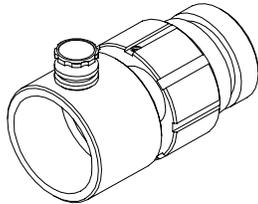

Figure 1-14. Threaded Adjustable Connector
k. **Threaded Adjustable Connector.** The threaded adjustable connector (Figure 1-14) was developed for use with lockstroke struts under conditions where any forceful movement could be dangerous. The connector permits final “soft” positioning of a lockstroke strut on a non-yielding surface. A 1/2” (1.3 cm) threaded extension is used to finely adjust and compensate for the space between the locking grooves on the lockstroke strut.